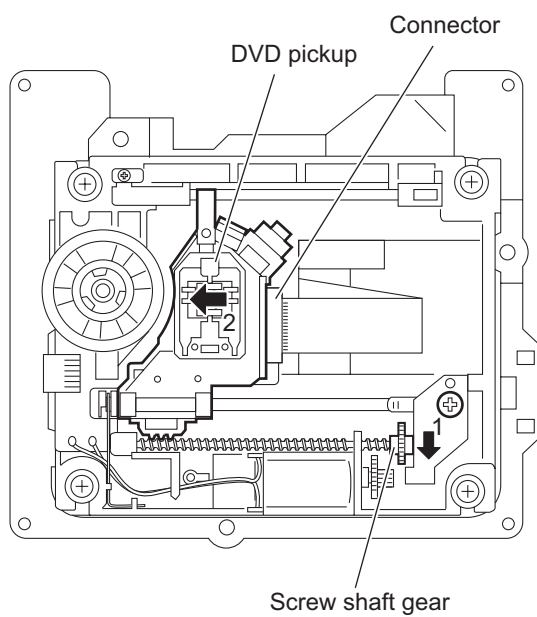

Fig.15
- (4) Turn the screw shaft gear in the direction of the arrow 1 to move the DVD pickup in the direction of the arrow 2. (See Fig.15.)
- (5) Connect the card wire to the connector on the DVD pickup. (See Fig.15.)